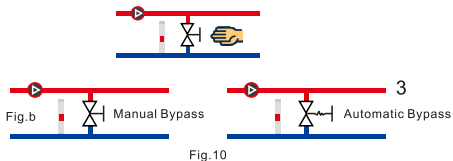

Fig.10
8.2.2 Components in the system Bypass valve; Flow meter A (as shown in Figure a). When all valves are closed, it is necessary to ensure the minimum flow rate. The setting of the pump depends on the type of bypass valve, namely manual bypass valve or temperature controlled bypass valve (as shown in Fig. 10).